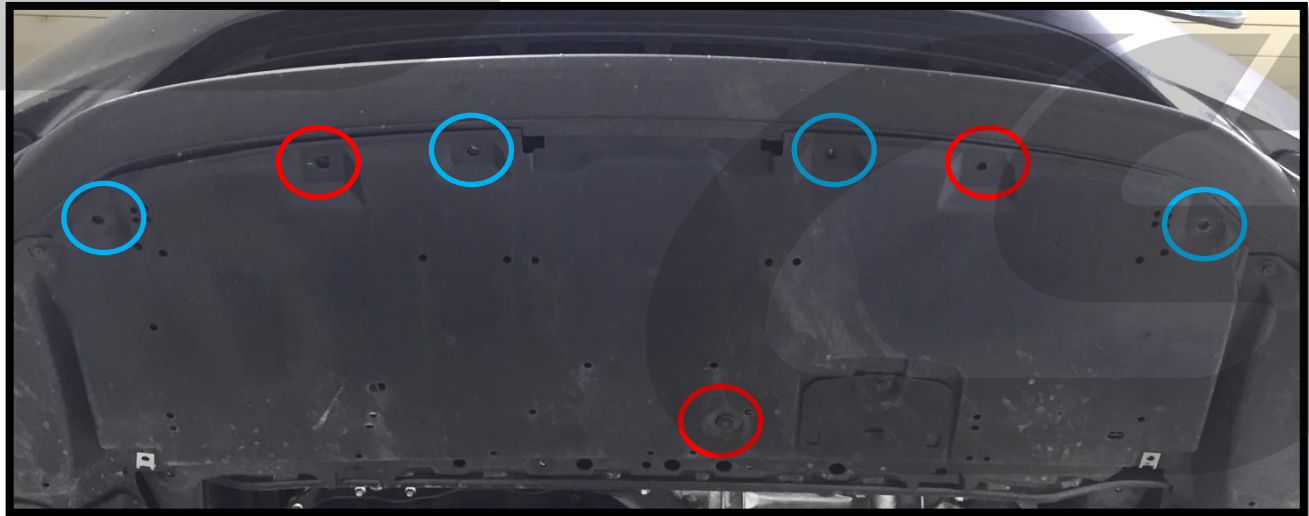

Figure 1b
- 1) Using a push-clip remover or flathead screwdriver remove three (3) push-clips (circled in red in Figure 1b).
- 2) Using 8mm socket, remove four (4) bolts (circled in blue in Figure 1b). Do not discard this hardware you will be reusing it later.